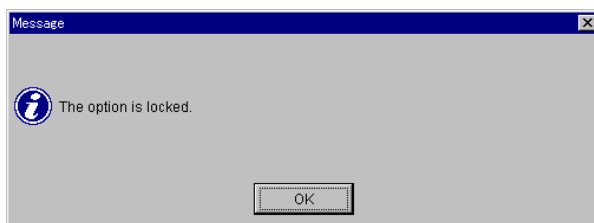

Figure 2.7 Locked Confirmation Message
7. A message appears, confirming that this optional feature is locked. Click the **OK** button (see Figure 2.7).